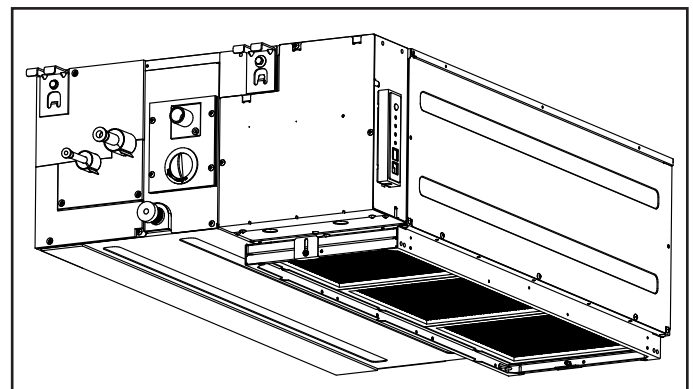

**Figure 12. Re-install Filter Frame and Return Air Cover Plate**
5. Use the existing screws to re-install the return air filter frame on the bottom of the unit. See Figure 12.